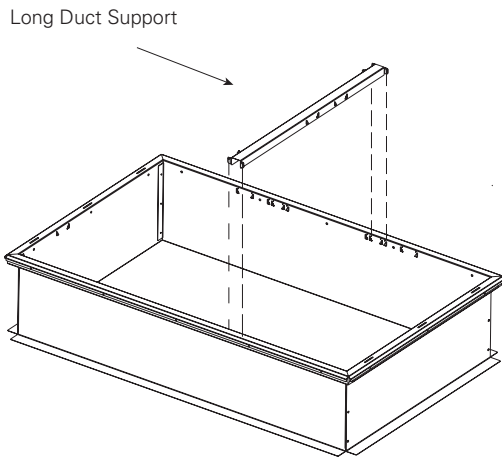

Figure 1. Step one
1. Set the two (2) sides and two (2) ends on a flat surface to form a square, with the wood nailers facing the outside. Assembling a long duct support at this point will hold the sides in place while fastening ends.
3. Assemble a long (37.42") duct support between the two sides: insert the first duct support 14.5 inches from either end by inserting the tabs on each end of the duct support into the appropriate triangular shaped slots. See Figure 1, p. 5. For your convenience we have provided screws and screw holes for securing each duct support. Use one screw for each end of a long duct support. These screws are not necessary for strength or function, but are to prevent accidental disassembly during duct attachment.